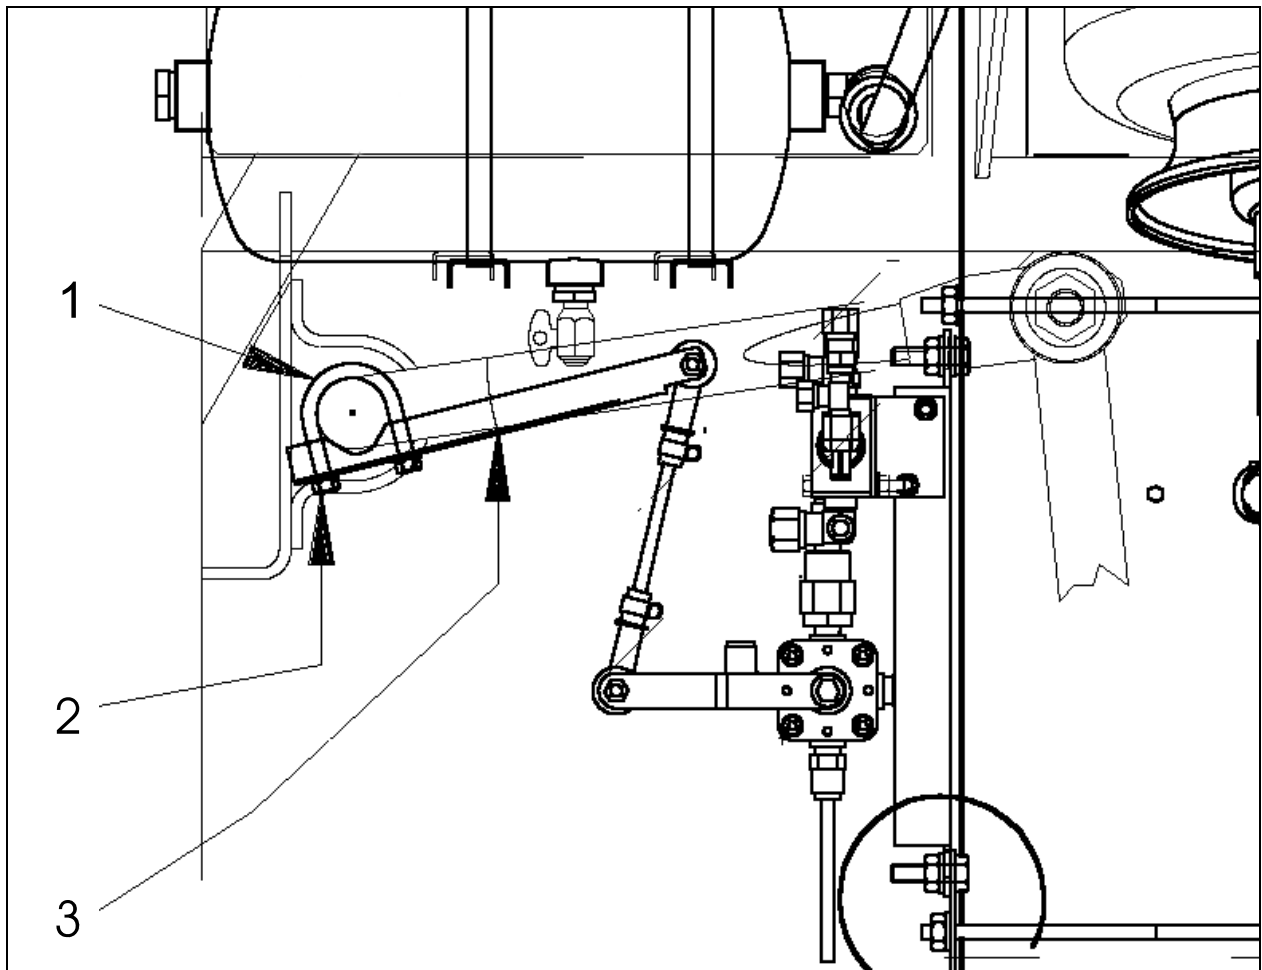

FIGURE 1 : HEIGHT CONTROL VALVE ON INDEPENDANT SUSPENSION
1. Locate the front suspension height control valve lever (3, Fig. 1) and U-bolt (1, Fig. 1).
2. To keep the levelling system properly adjusted, mark the position of the valve lever on the sway bar. Place a lock washer and tighten the nut one stud at a time (2, Fig. 1).